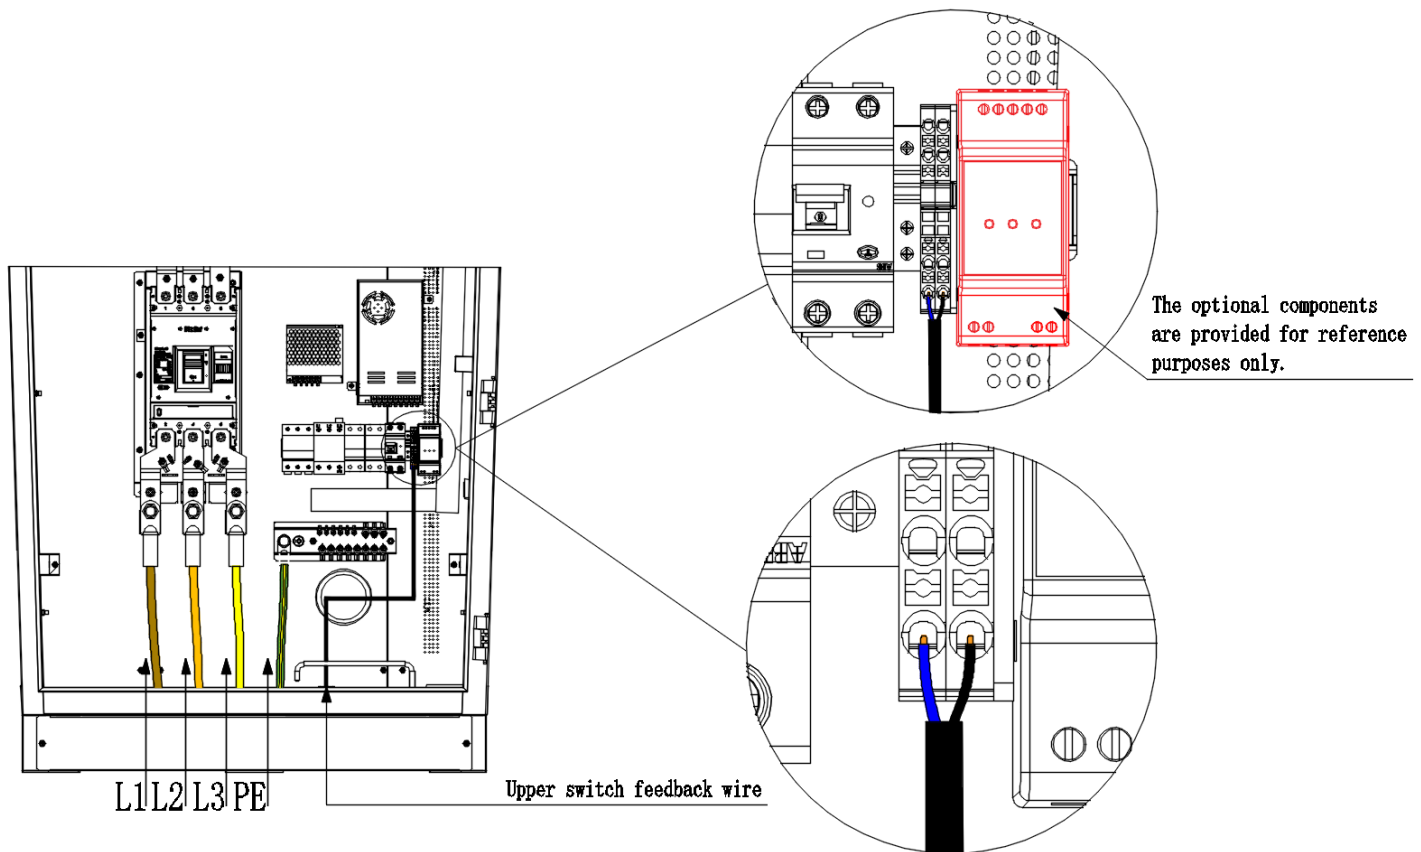

Figure 4.4.4
2. Fix the cable lug on the copper bar with the screw of M(25/64)/M(5/16) inch(M10/M8), the torque is 221-265.2 in·lbs(25-30N·m), and the force is calibrated, as shown in Figure 4.4.4.